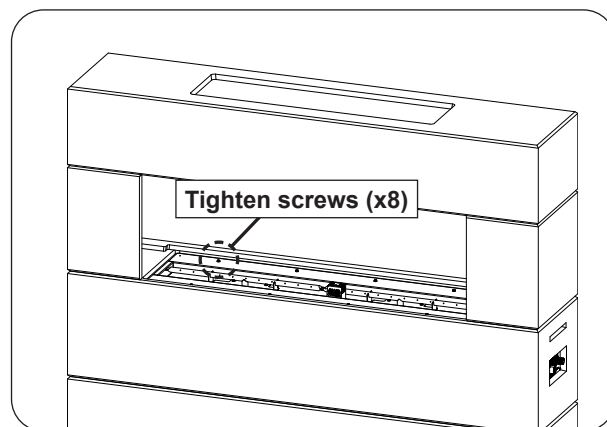

Fig. 30-3 Secure burner
2. Use a  $\frac{5}{16}$ " nut driver to fasten the burner to the base (see Fig. 30-3).